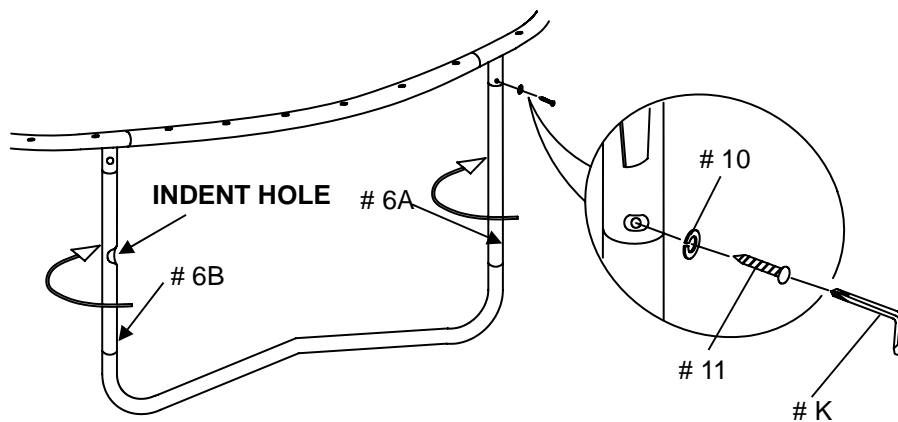

FIGURE 4
- C. Secure the Leg Supports to the Top Rail with Leg Sockets (# 3). Insert the Self-Locking Screw (# 11) through the Small Spring Lock Washer (# 10) and loosely into the hole using the Allen Wrench (# K) as shown in FIGURE 4.